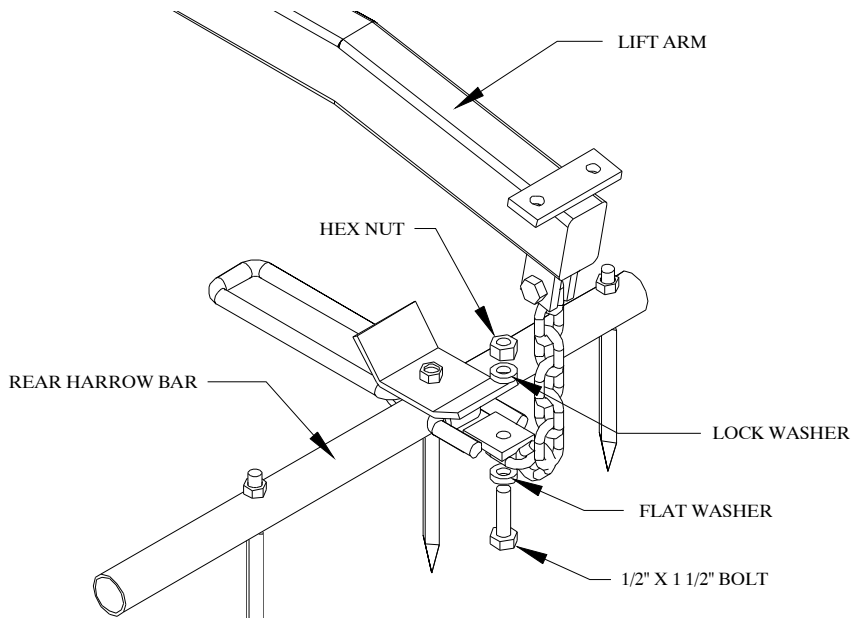

Figure 17
2. Bolt the lift chains to the bottom of the rear lift tabs of the harrow sections. Refer to Figure 17. Use $\frac{1}{2}$ " x $1\frac{1}{2}$ " bolts, flat washers, lock washers, and hex nuts. Make sure the chains are not twisted.